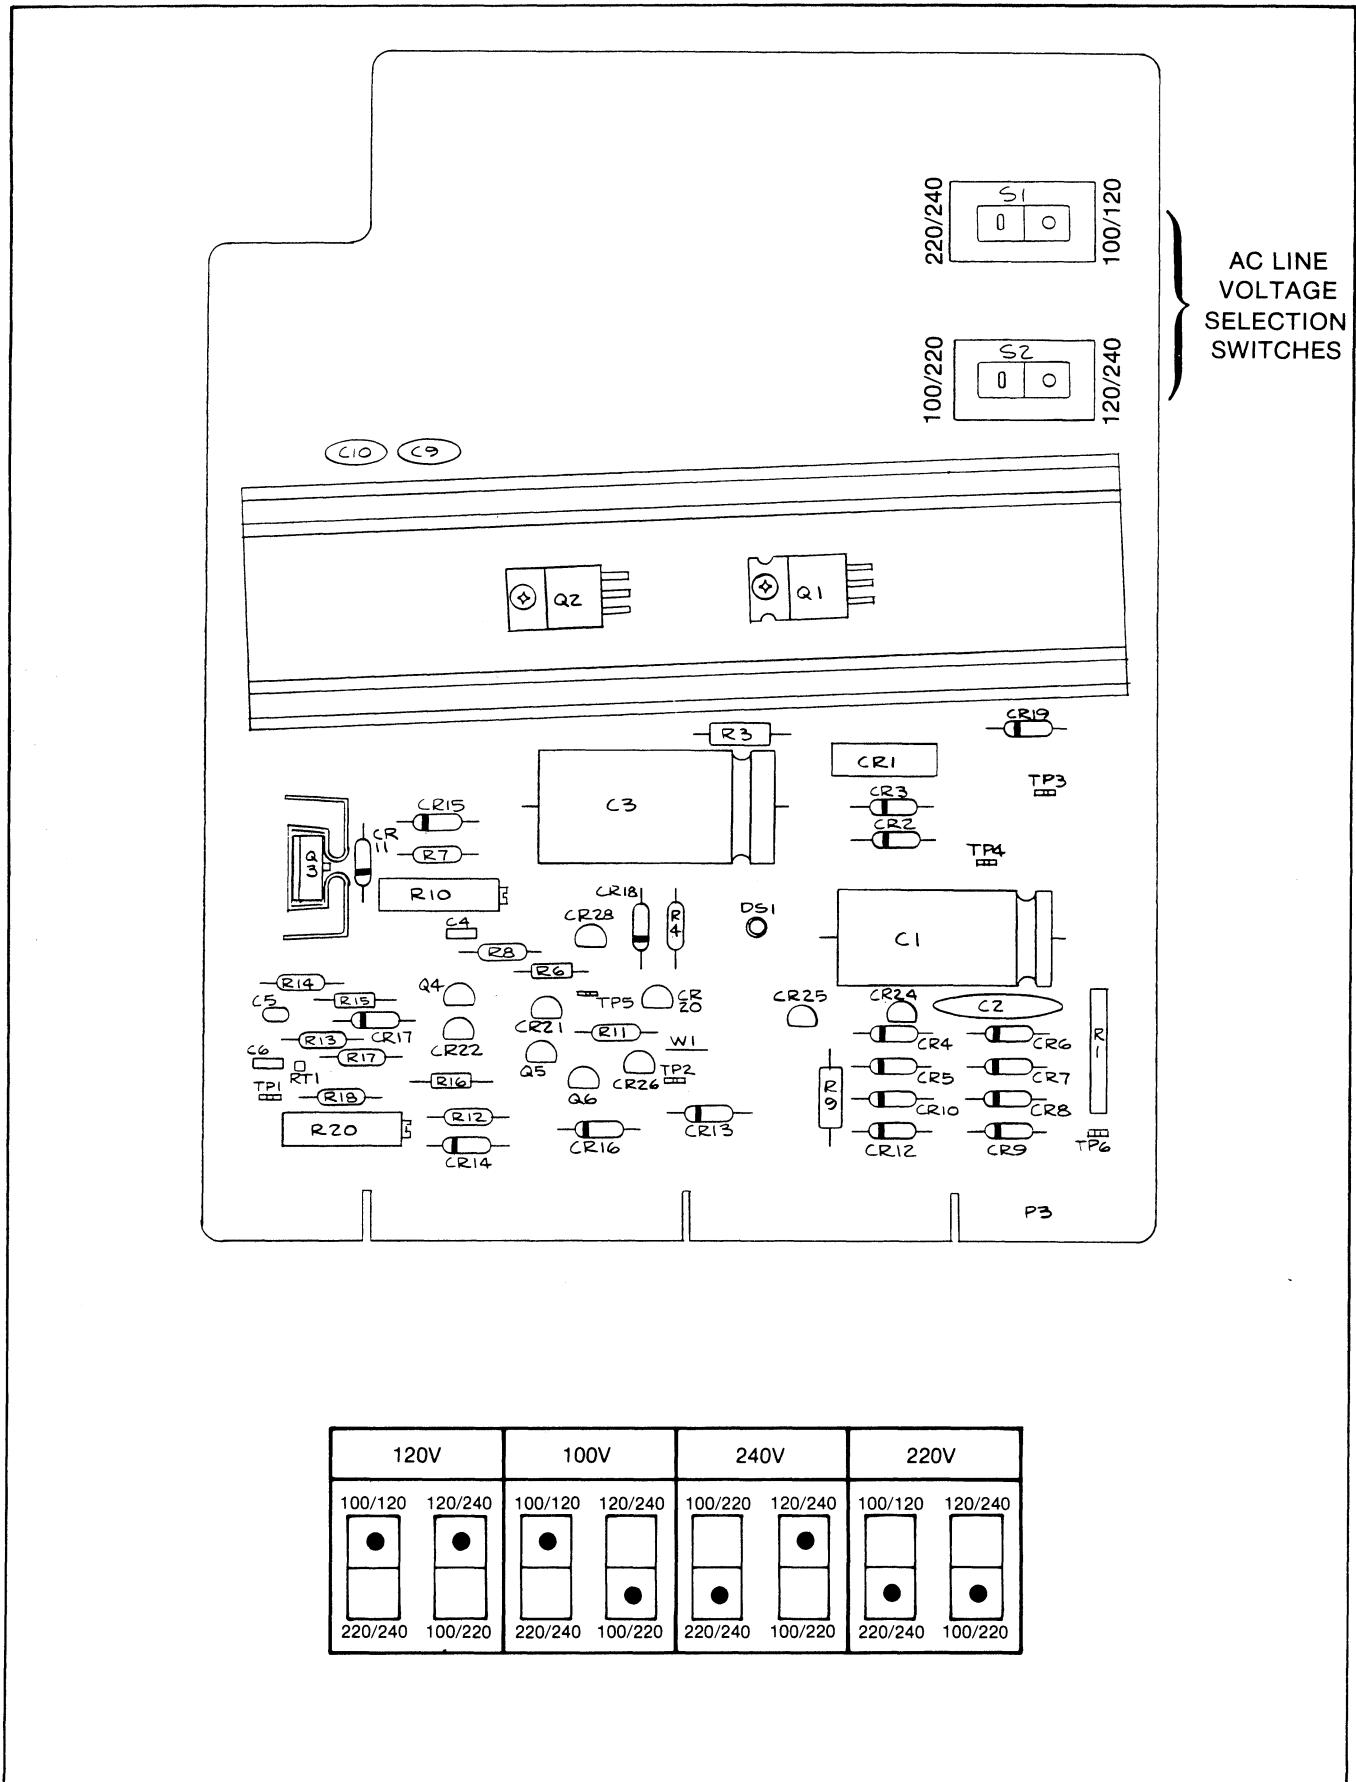

Figure 4-5. AC Line Voltage Conversion on A3 Pre-Regulator PCB Assembly
4-29. The 732A may be operated from 100V, 120V, 220V, or 240V ac \pm 10%. The assigned line voltage may be changed to match the available source using the following procedure. Refer to Figure 4-5.
4. Locate the voltage selector switches (slide switches, top of PCB, near rear panel). Set the switches so that the dots on the switch actuators select the correct line voltage. As shown in Figure 4-5.